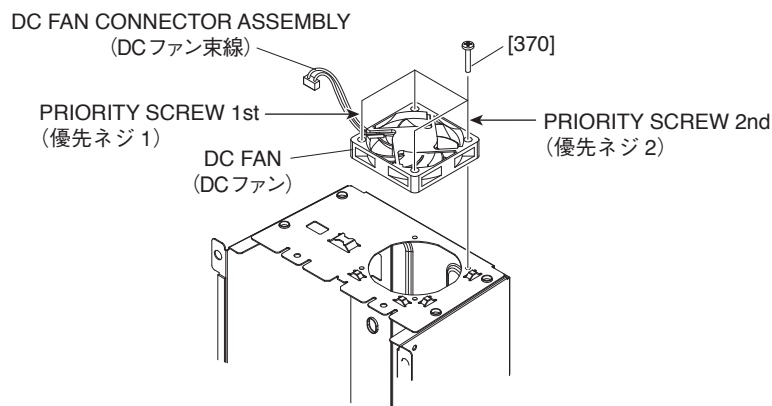

Fig. C-7 (図C-7)
- C-8-1 Remove the four (4) screws marked [370]. The DC fan can then be removed. (Fig. C-7)
- * **When installing the DC fan, first tighten the two (2) priority screws in order as shown in Fig. C-7.**
(図C-7)
- ※ DCファンを取り付け時には、優先ネジ2本を図に示す順番で先に締めてください。(図C-7)